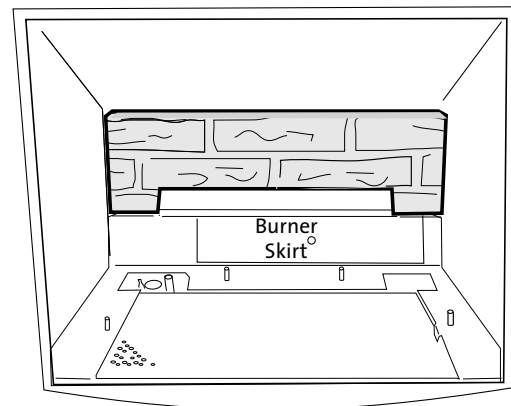

Figure 43. Install the Lower Rear Panel
4. Install the Lower Panel. Position it up against the back wall, resting on the Burner Skirt. Fig. 43.